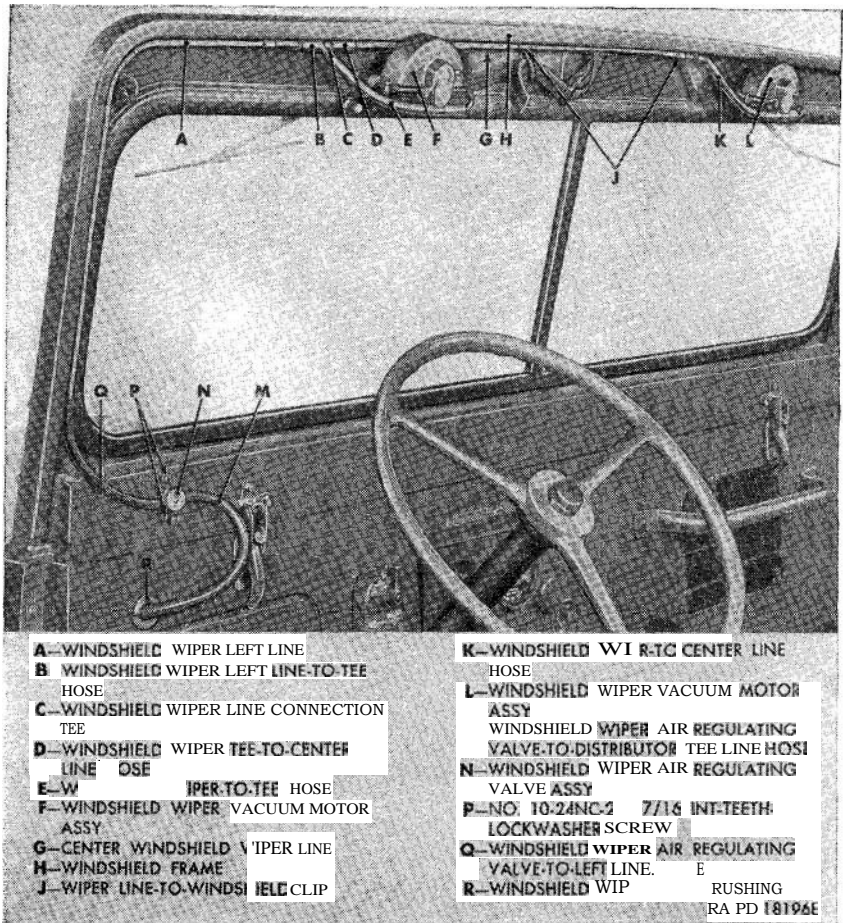

Figure 187. Windshield wiper vacuum motors—installed.
- (2) *Installation.* Position the windshield wiper adjustable arm on the serrated shaft of the paddle within the windshield wiper vacuum motor. Secure the arm to the shaft with one No. 10 blind nut. Install the windshield wiper blade assembly (a(2) above).
*Note.* Procedures in this paragraph apply to either windshield wiper vacuum motor assembly. The key letters noted in parentheses are in figure 187, except where otherwise indicated.
- (1) *Removal.* Remove the windshield wiper blade assembly (a(1) above). Remove the windshield wiper adjustable arm assembly (b(1) above). Pull the hose (windshield wiper-to-
*Note.* The key letters noted in parentheses are in figure 187, except where otherwise indicated.
- (1) *Left windshield wiper-to-tee and windshield wiper-to-center line hoses.*
- (a) *Removal.* Pull the left end of the windshield wiper-to-tee hose (E) from the windshield wiper line connection tee (C). Pull the right end of the hose from the fitting on the left windshield wiper vacuum motor assembly (F) and remove the hose from vehicle. Pull the left end of the windshield wiper-to-center line hose (K) from the center windshield wiper line (G). Pull the right end of the hose from the fitting on the right windshield wiper vacuum motor assembly (L) and remove the hose from the vehicle.
- (b) *Installation.* Slide one end of the left windshield wiper-to-tee hose (E) onto the windshield wiper line connection tee (C). Slide the other end of the hose onto the fitting on the left windshield wiper vacuum motor (F). Slide one end of the windshield wiper-to-center line hose (K) onto the center windshield wiper line (G). Slide the other
- end of the hose onto the fitting on the right windshield wiper vacuum motor (L).
- (2) *Center windshield wiper line, windshield wiper tee-to-center line hose, windshield wiper line connection, and windshield wiper left line-to-tee hose.*
- (a) *Removal.* Remove the two sheet metal screws securing the two wiper line-to-windshield clips (J). Pull the right end of the center windshield wiper line (G) out of the windshield wiper-to-center line hose (K). Pull the left end of the line out of the windshield wiper tee-to-center line hose (D). Pull the tee-to-center line hose off the windshield wiper line connection tee (C). Pull the left end of the left windshield wiper-to-tee hose (E) off the connection tee. Remove the connection tee by pulling it out of the windshield wiper left line-to-tee hose (B). Pull the hose off the windshield wiper left line (A).
- (b) *Installation.* Slide the windshield wiper left line-to-tee hose (B) onto the end of the windshield wiper left line (A). Insert the end of the windshield wiper line connection tee (C) into open end of the left line-to-tee hose. Slide the left windshield wiper-to-tee hose (E) onto the bottom arm of the connection tee. Slide the windshield wiper tee-to-center line hose (D) onto the upper arm of the connection tee. Insert one end of the center windshield wiper line (G) into the open end of the windshield wiper tee-to-center line hose (D). Insert the other end of the center windshield wiper line into the open end of the windshield wiper-to-center line hose. Secure the two wiper line-to-windshield clips (J) to the windshield frame with two No. 10 x  $\frac{1}{2}$  sheet metal screws.
- (3) *Left windshield wiper line.*
- (a) *Removal.* Remove the three sheet metal screws that secure the three wiper line-to-windshield clips (J) on the windshield wiper left line (A) to the windshield frame (H). Pull the upper end of the line out of the windshield wiper left line-to-tee hose (B). Pull the lower end of the line out of the windshield wiper air regulating valve-to-left line hose (Q) and remove the line.
- (b) *Installation.* Insert the lower end of the windshield wiper left line (A) into the windshield wiper air regulating valve-to-left line hose (Q). Insert the upper end of the line into the windshield wiper left line-to-tee hose (B). Secure the three wiper line-to-windshield clips (J) on the line to the windshield frame (H) with three No. 10 x  $\frac{1}{2}$  sheet metal screws.